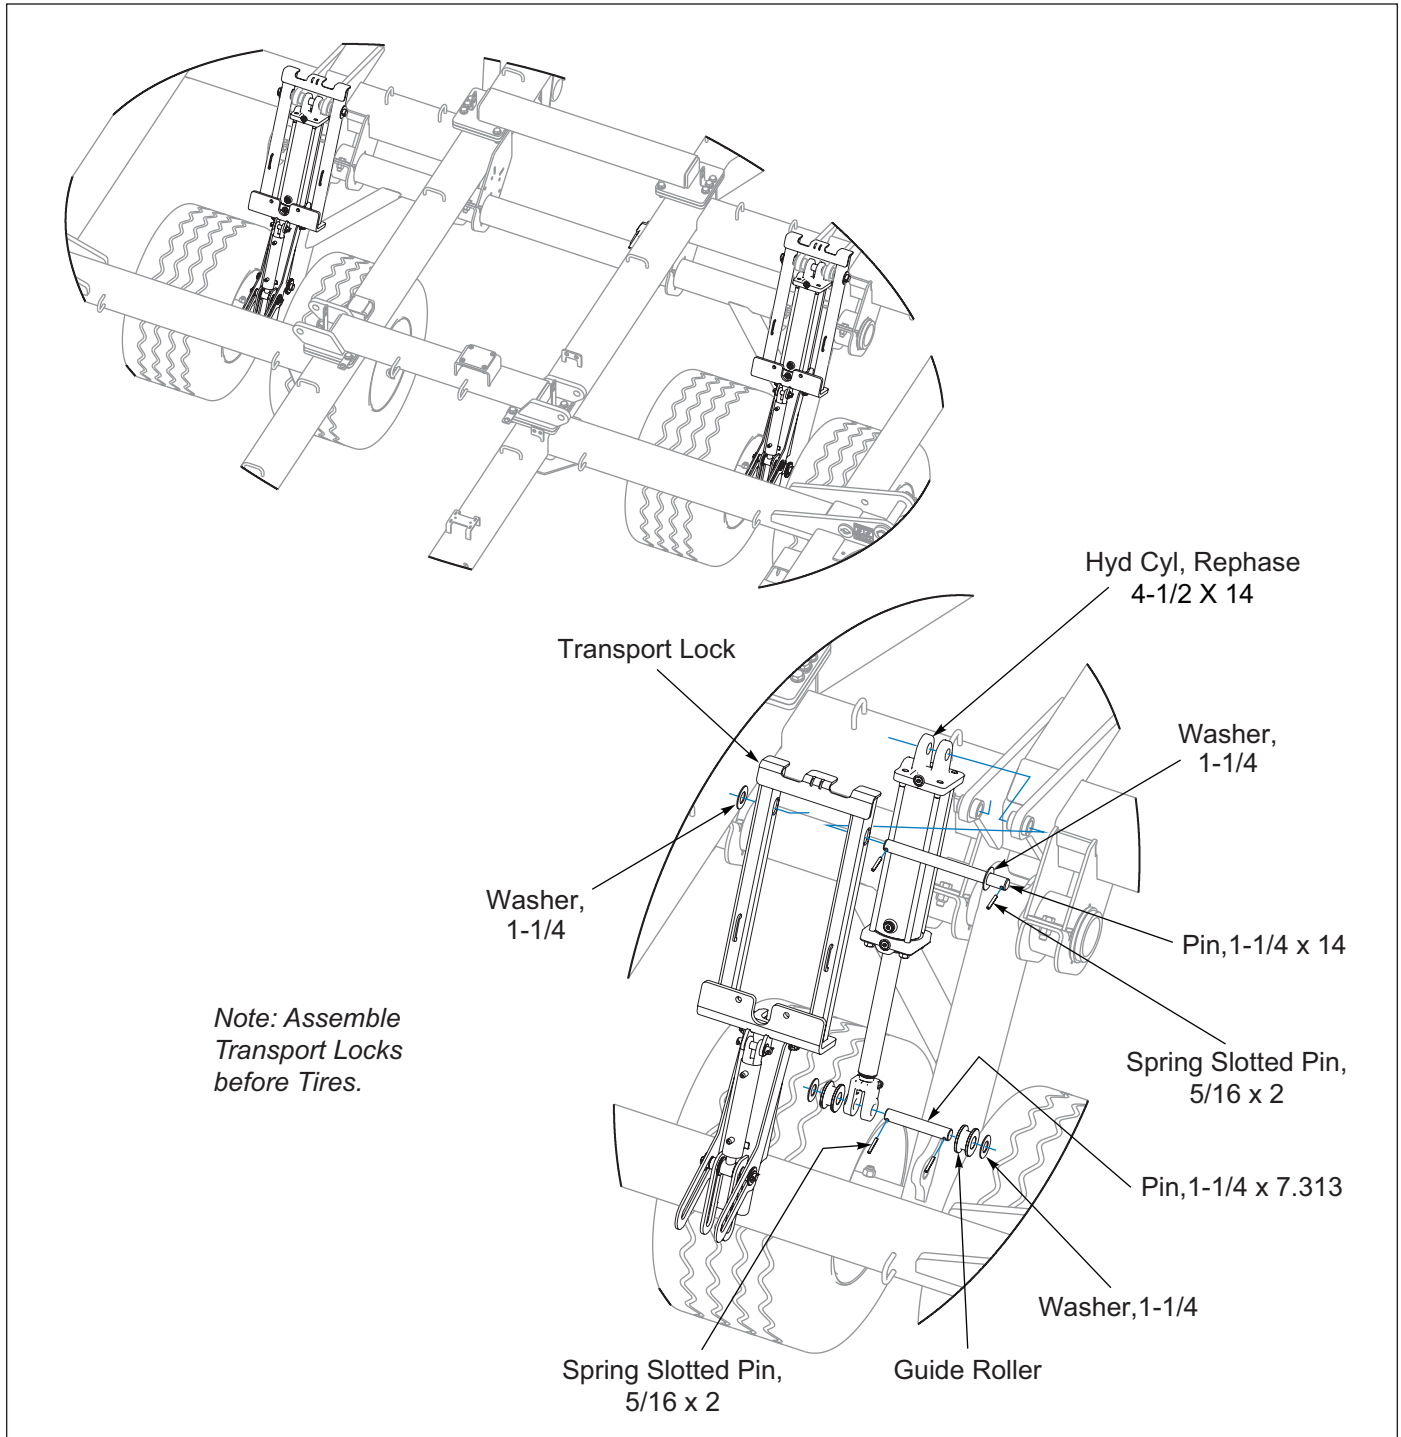

Figure 2-6: Rockshaft Cylinder and Transport Lock Installation (Hydraulic)
1. Align Transport Lock with Frame Lugs. Insert Pin through one side of Transport Lock and one Frame Lug. Align 14 x 4-1/2 Hydraulic Cylinder base end with Frame Lugs. Hydraulic ports should be rear facing. Secure with Pin. Install Washers and Roll Pins. **See Figure 2-6.**